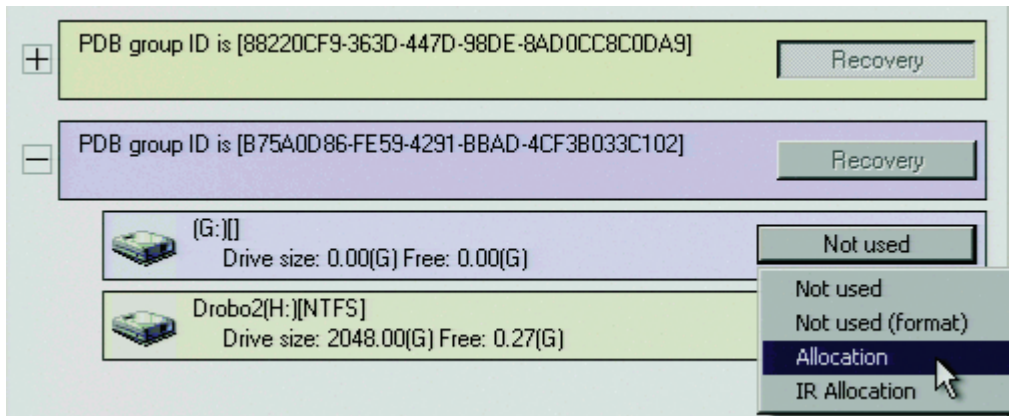

Figure 86. Selecting Drives for Allocation
- b. Click the PDB button for each JBOD drive, and then select Allocation (refer to Figure 86).